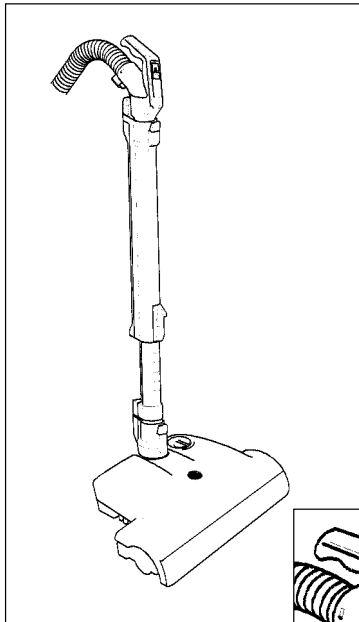

Figure 1
Starting The Machine - Figures 1 & 2
A. Before turning on your canister, make sure that the vacuum handle is in its upright locked position (figure 1).
B. When the power head is switched on with the handle in the upright locked position (see figure 1 above), the brush roller will not spin. To release the power head from the upright locked position, gently place your foot on the power head for leverage and lower the handle into the operating position (figure 3). The brush roller will then start spinning. The amber indicator light may flicker for a few seconds when you lower the handle - this is normal.